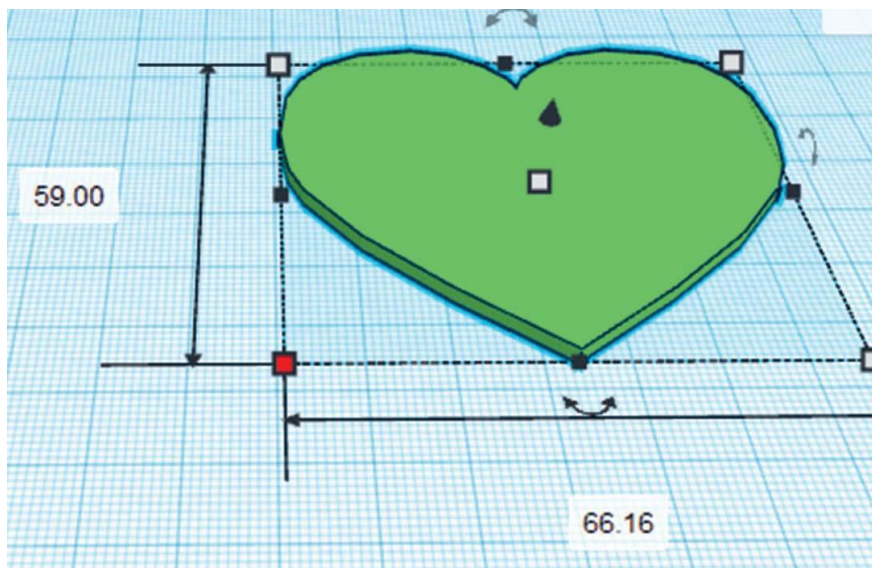

FIG. 7: The solid heart-shaped earring on the workplane.
2. Drag a solid heart shape, from the **Basic Shapes** menu onto the workplane. The dimensions should be based on the size of the earring you want (fig. 7).